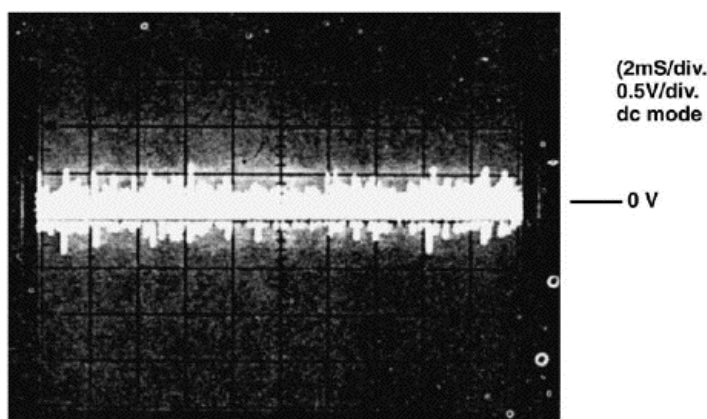

FIGURE 30-51 The scope-waveform focus-gain adjustments in this Realistic CD player.
- 3 Adjust VR502 so that the waveform on the scope becomes like Fig. 30-51.